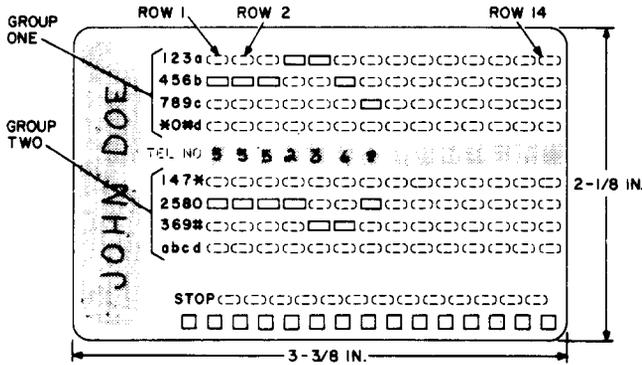

Fig. 3—Dial Card Coded For 7-Digit Telephone Number
- (1) Write name and telephone number in spaces provided as shown in Fig. 3 and 4.
- (2) Convert exchange letters to numbers. For example: use 2 for A, B, or C; 7 for P, R, or S; etc.
Note: There are two groups of numbers 1 through 0 on the card (Fig. 3), plus 6 special characters, *, #, a, b, c, d. **DO NOT** confuse these with exchange letters.
- (3) In Fig. 3 the first digit of the telephone number is 5. In row 1, locate digit 5 in the first group of numbers and punch out the perforation with a pencil or ballpoint pen. In the same row, locate digit 5 in the second group of numbers and again punch out the perforation.
- (4) Repeat this procedure for each digit in the telephone number. The digit 0 must be punched out in each group of numbers just as any other digit.
- (5) It is not necessary to punch a stop following the last telephone number digit, except in certain operations where transmission of a single